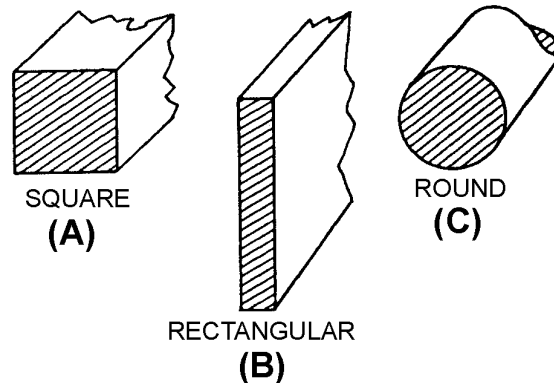

Figure 1-1.—Cross-sectional areas of conductors.
The square mil is a unit of measurement used to determine the cross-sectional area of a square or rectangular conductor (views A and B of figure 1-1). A square mil is defined as the area of a square, the sides of which are each 1 mil. To obtain the cross-sectional area of a square conductor, multiply the dimension of any side of the square by itself. For example, assume that you have a square conductor with a side dimension of 3 mils. Multiply 3 mils by itself (3 mils \times 3 mils). This gives you a cross-sectional area of 9 square mils.
The circular mil is the standard unit of measurement of a round wire cross-sectional area (view C of figure 1-1). This unit of measurement is found in American and English wire tables. The diameter of a round conductor (wire) used to conduct electricity may be only a fraction of an inch. Therefore, it is convenient to express this diameter in mils to avoid using decimals. For example, the diameter of a wire is expressed as 25 mils instead of 0.025 inch. A circular mil is the area of a circle having a diameter of 1 mil, as shown in view B of figure 1-2. The area in circular mils of a round conductor is obtained by squaring the diameter, measured in mils. Thus, a wire having a diameter of 25 mils has an area of 25^2 , or 625 circular mils. To determine the number of square mils in the same conductor, apply the conventional formula for determining the area of a circle ($A = \pi r^2$). In this formula, A (area) is the unknown and is equal to the cross-sectional area in square mils, π is the constant 3.14, and r is the radius of the circle, or half the diameter (D). Through substitution, $A = 3.14$, and $(12.5)^2$; therefore, $3.14 \times 156.25 = 490.625$